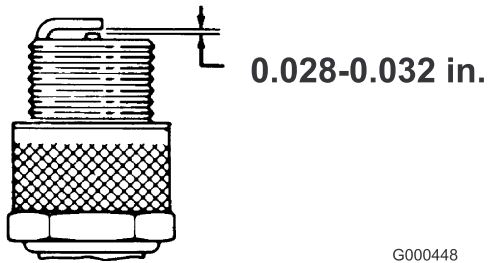

Figure 24
- Set the air gap at 0.028 to 0.032 inch (0.05 to 0.07 cm) (Figure 24).